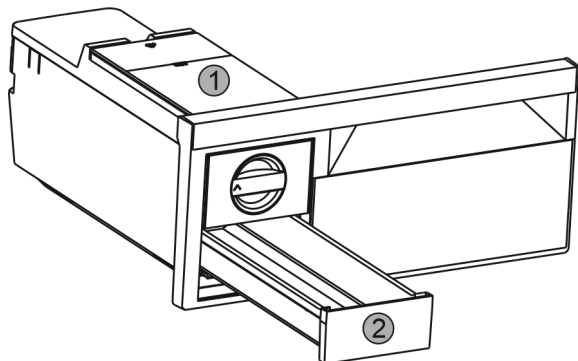

Fig. 29
- Take out the water tank Fig. 29 (1) and ice cube drawer Fig. 29 (2).